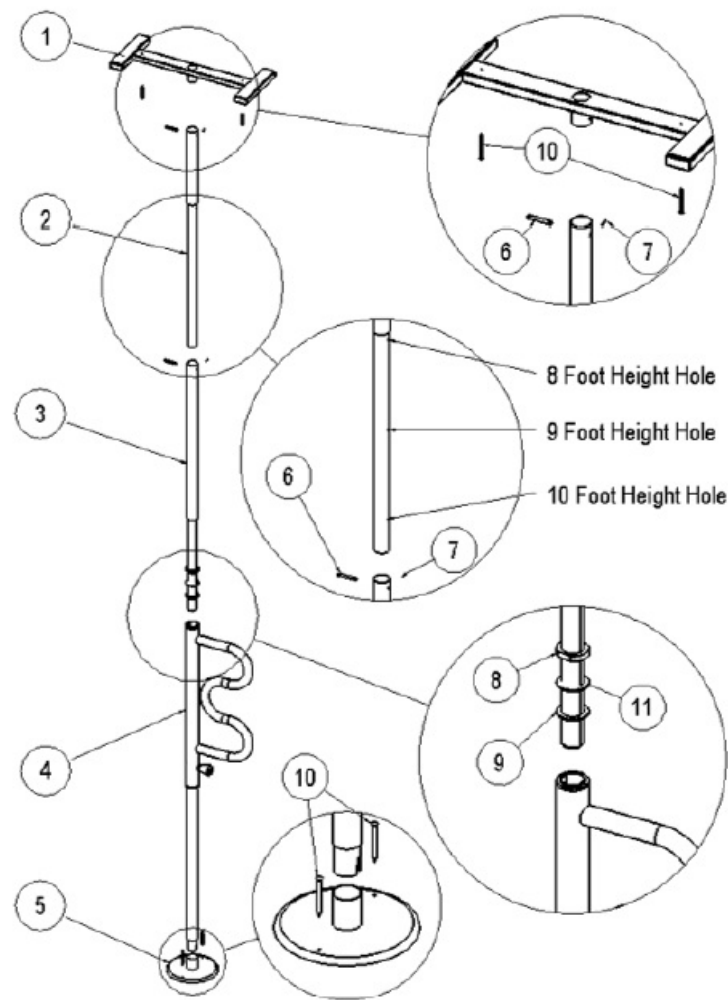
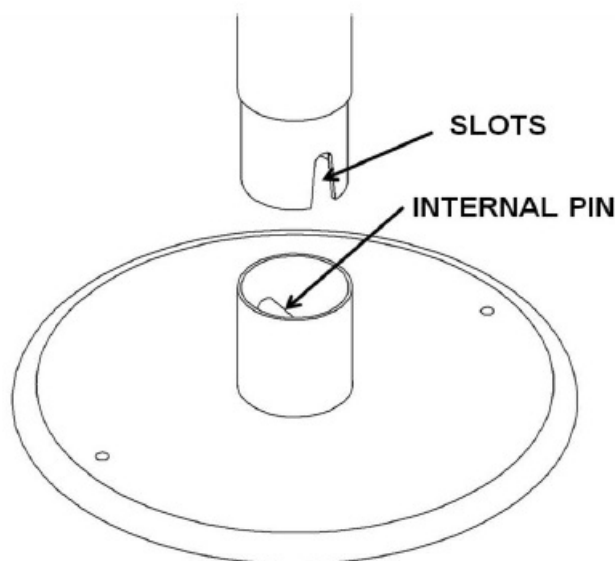

FIGURE 1
FIGURE 3
1. Take all parts out of the box and lay them on a flat surface as shown in Figure 1.
4. The Extension Tube (ITEM-2) has 3 sets of holes marked "8 Foot Height Hole", "9 Foot Height Hole", and "10 Foot Height Hole" as shown in Figure 1. Use the appropriate height hole that corresponds to the height of the ceiling this product will be installed.
7. Attach Base Plate (ITEM-5) to Handle Tube (ITEM-4), as shown in Figure 1, by aligning the slots in Handle Tube (ITEM-4) with the internal pin in Base Plate (ITEM-5) so the slots straddle the internal pin to prevent rotation as shown in Figure 3.
NOTE: Make sure the Plastic Washer (ITEM-11) is placed between the Adjustment Nut (ITEM-8) and the Washer (ITEM-9) as shown in Figure 1 before inserting ITEM-3 into ITEM-4.